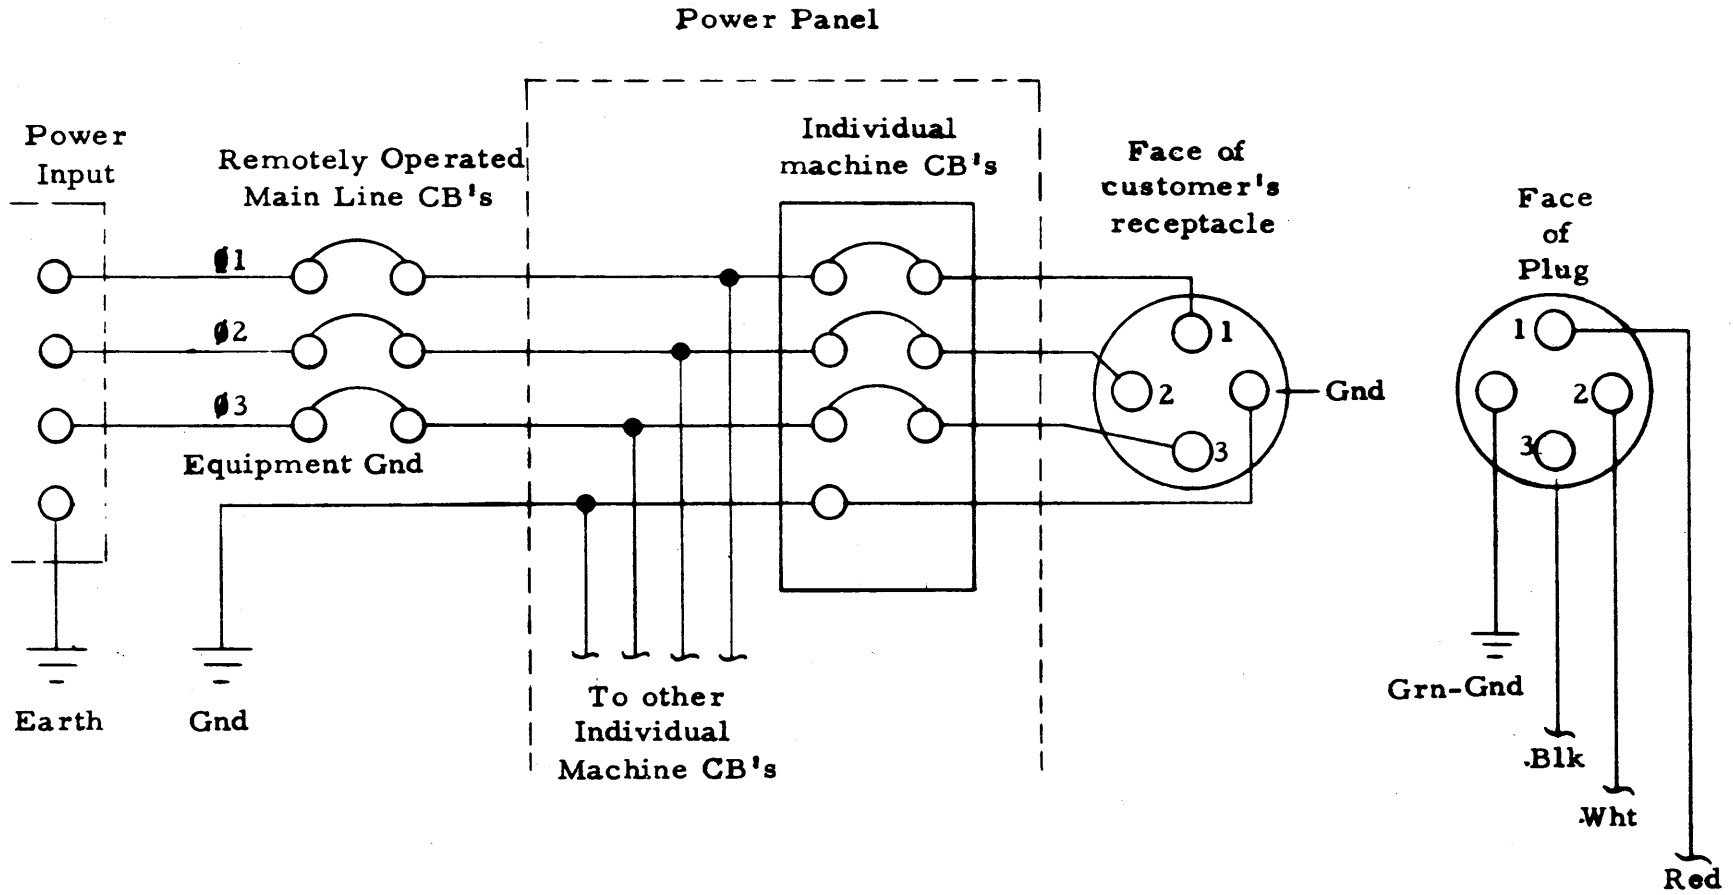

FIGURE 1-1 TYPICAL POWER SYSTEM
3. Check the phase voltages on the receptacle pins. Phase 1, red wire; phase 2, white; phase 3, black; ground green. See Figure 1-1.